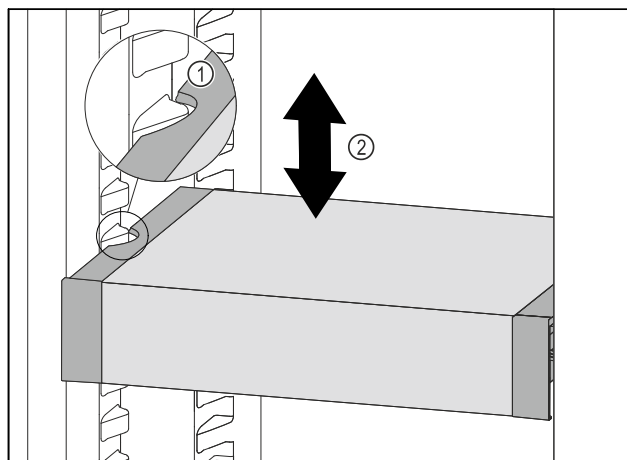

Fig. 114
- Pull VarioSafe forwards until the recesses in the side of the VarioSafe are at the level of the support rib in the refrigerator compartment. Fig. 114 (1)
- Move VarioSafe up or down in the refrigerator compartment until the desired height is reached. Fig. 114 (2)